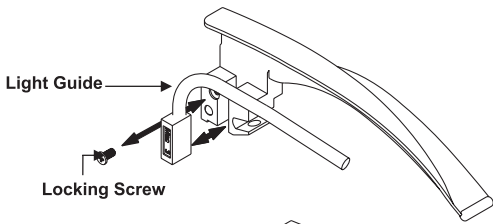

Fig 4
In the Gima Green blades the fiber optic light blades stems are removable and are interchangeable with a same size blade. By unscrewing the locking side screw as shown in Fig. 4, the light guide can be disengaged and removed for cleaning, repairs or replacement.
1. Remove locking screw with a screw driver as show in Fig 4.